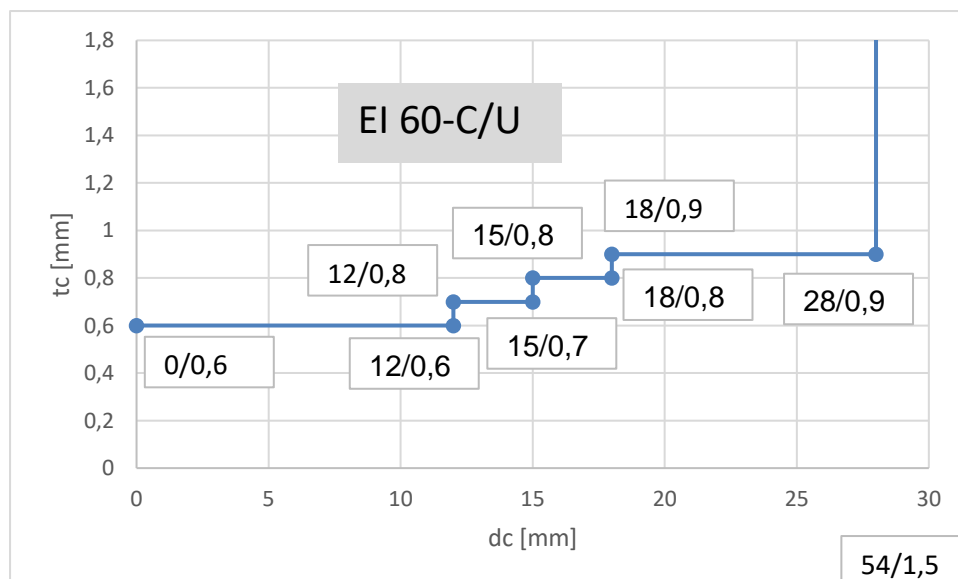

Figure 66: FEF-insulated copper pipes, sealed with CFS-B in CFS-CT HDB
- Pipe diameter and Pipe wall thickness – refer to Figure 66